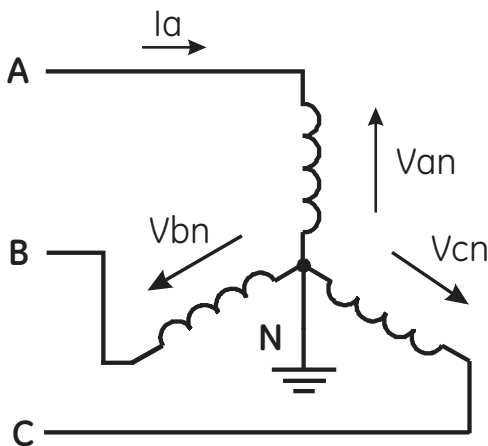

FIGURE 1-1: Three-phase Wye winding
The wye connection is so called because when you look at the phase relationships and the winding relationships between the phases it looks like a wye (Y). Fig. 1.1 depicts the winding relationships for a wye-connected service. In a wye service the neutral (or center point of the wye) is typically grounded. This leads to common voltages of 208/120 and 480/277 (where the first number represents the phase-to-phase voltage and the second number represents the phase-to-ground voltage).